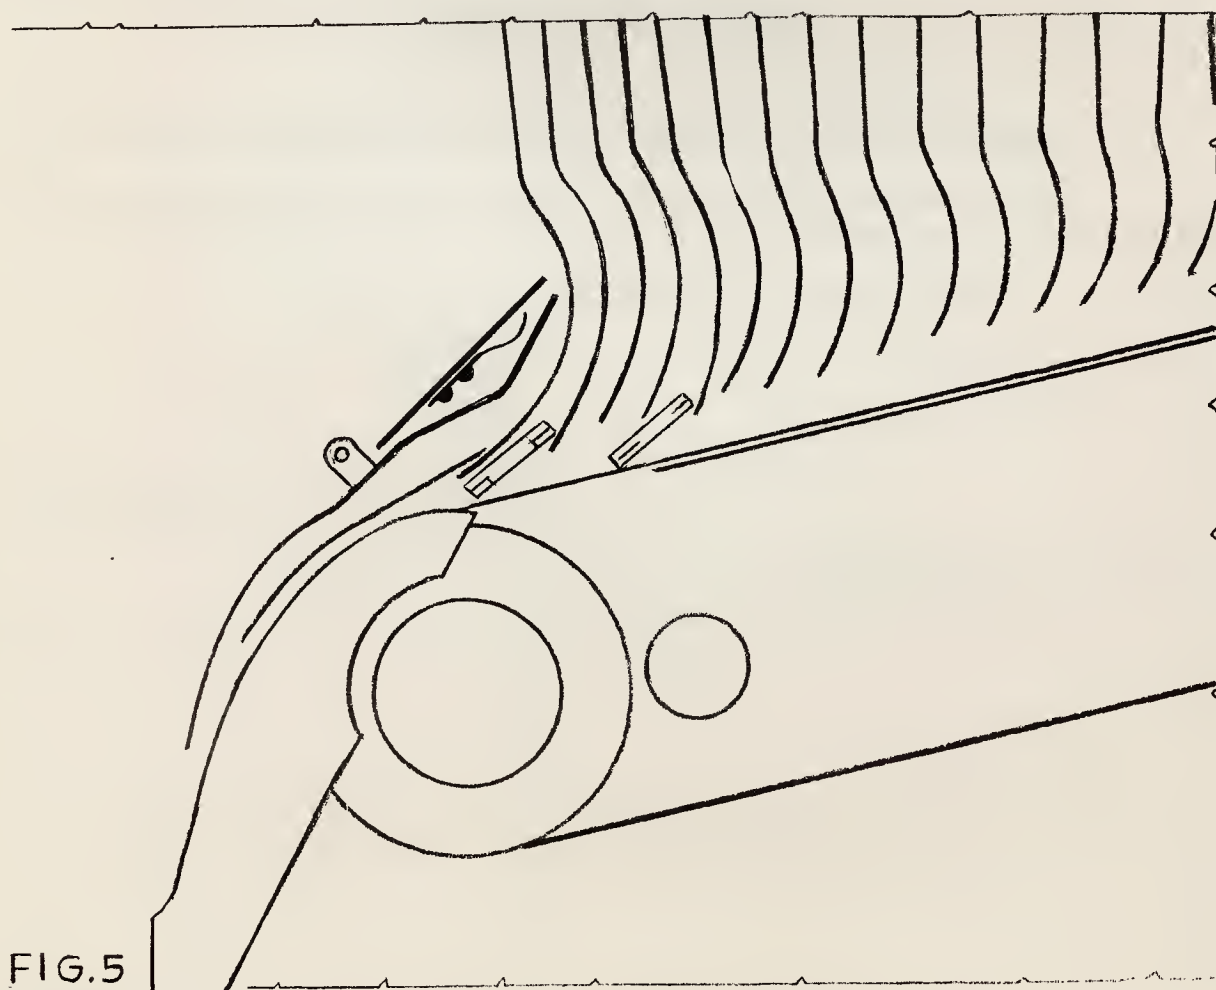

FIG.5
(E) Relationship of assembling guides to matrix delivery belt (Fig. 5)